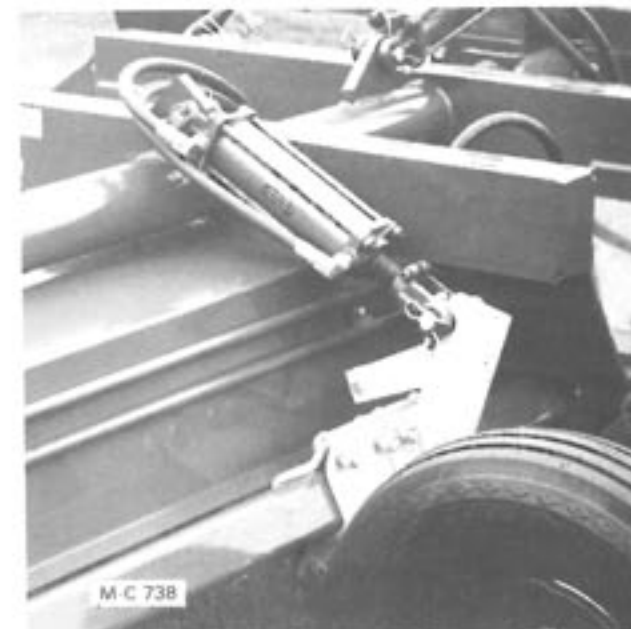

Figure 3 - 180 With Optional End Tow System
1. The cylinder rear mount with floating link is installed on the left side of the rear axle at the factory. Install the optional mechanical ram or customer supplied hydraulic ram between the cylinder front mount and the cylinder rear mount floating link, see Figure 3.